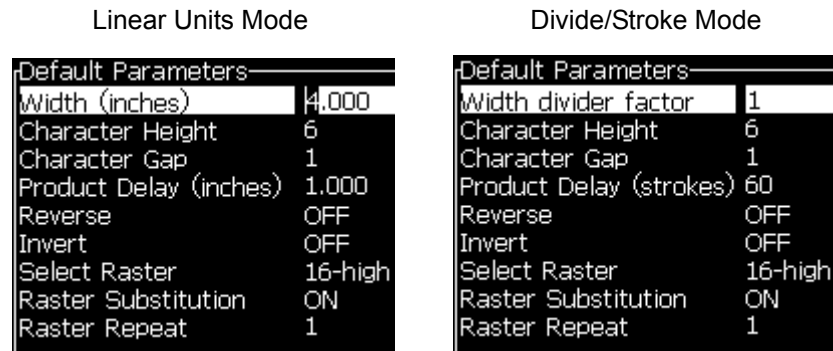

Figure 5-11: Default Parameters Dialog Box
The different parameters that are available (*Messages > Default Parameters*) are shown in Table 5-10, and Figure 5-11 on page 5-25.
- 2 Select the *Default Parameters* (Figure 5-11 on page 5-25) to edit the values.